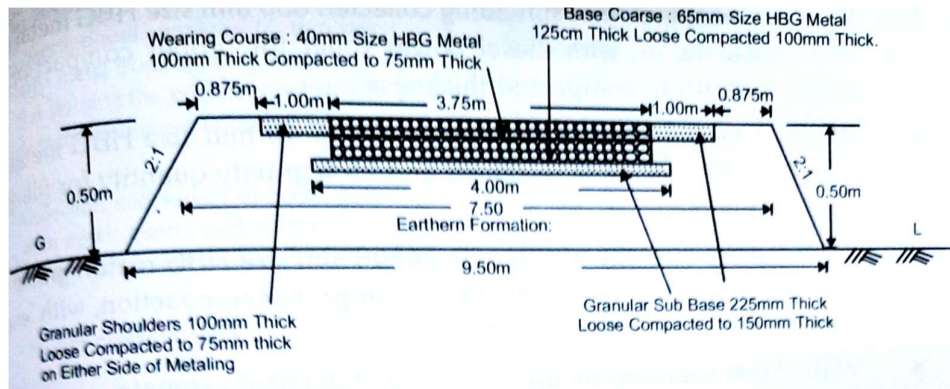

Fig.5
18. Calculate the following quantities of WBM road shown in the fig.5 for a length of 1.50 km: